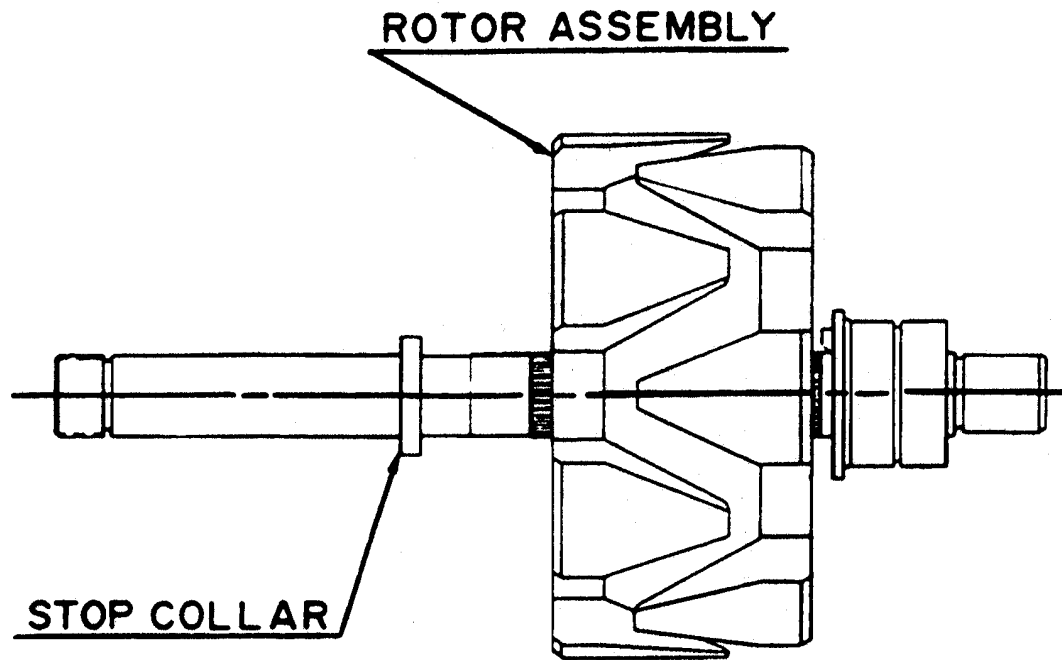

FIGURE 27
1. Using an arbor press, press the shaft (10) into the drive-end bearing (2) until it bottoms on the stop collar. Do not press against the bearing unsupported. Use a tool that fits over the shaft and supports the bearing inner race. (See Figure 27.)